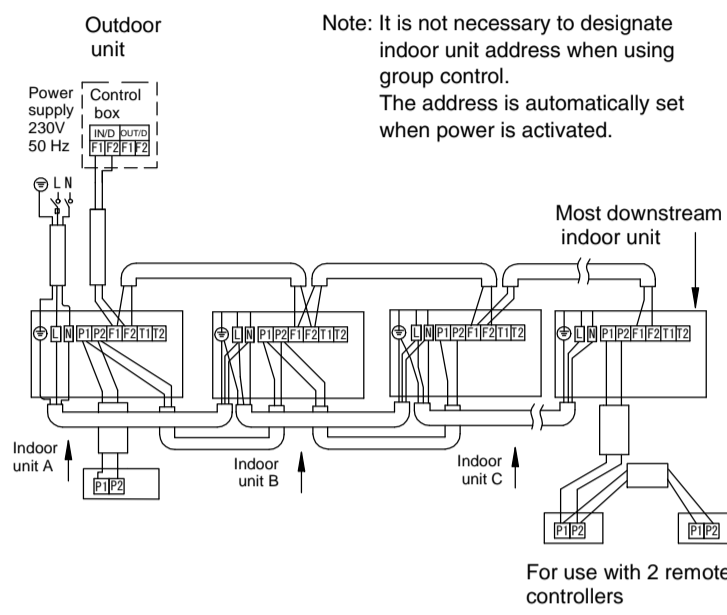

Fig. 5
- Add the second remote controller (slave) to the transmission terminal block (X2M/P1, P2) in the electric parts box. (There is no polarity.) (Refer to Fig. 5 and 9-3.)